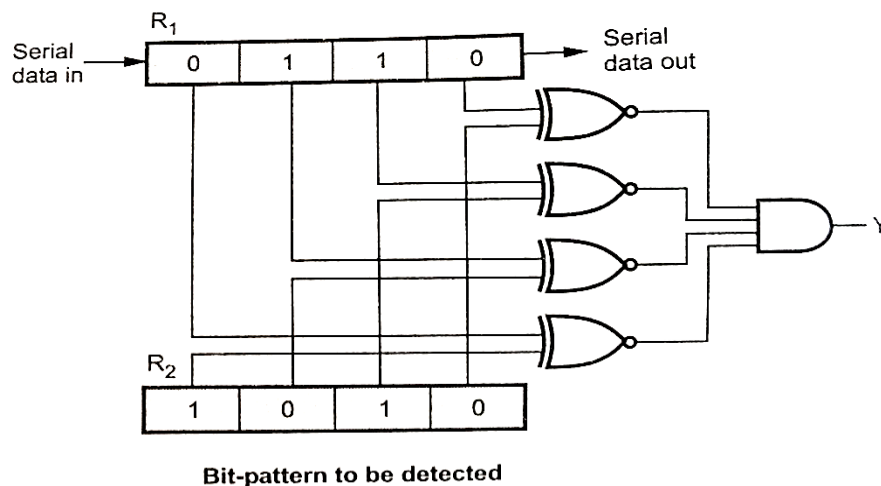

Figure 3.37: 4-bit sequence detector
- In every clock cycle, bit-wise comparisons of these two registers are done using EX-NOR gates as shown in figure 3.37.